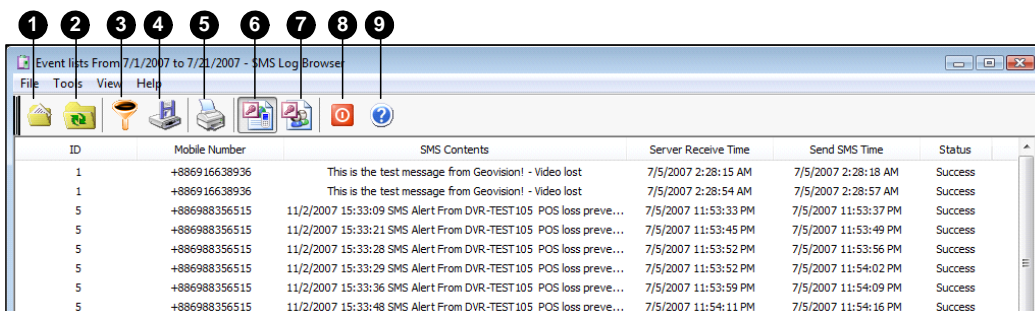

Figure 8-9
Clicking the [SMS Event Log] button (No. 6, Figure 8-9) on the toolbar, you can monitor senders (ID), mobile numbers, text messages, sent and failed SMS. **This can be beneficial as you may charge your clients by the amount of SMS messages they sent.**
Clicking the [System Event Log] button (No. 7, Figure 8-9) on the toolbar, you can monitor the server activities, client login and logout, and connection problems.